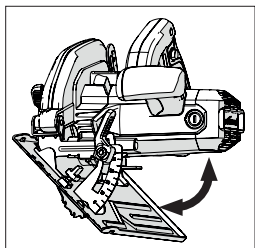

Fig. 14
- Tilt the blade to the required angle as indicated on the quadrant protractor scale. (**Fig. 14**)
(14) OPERATING ADVICE (PRE OPERATION CHECKS)